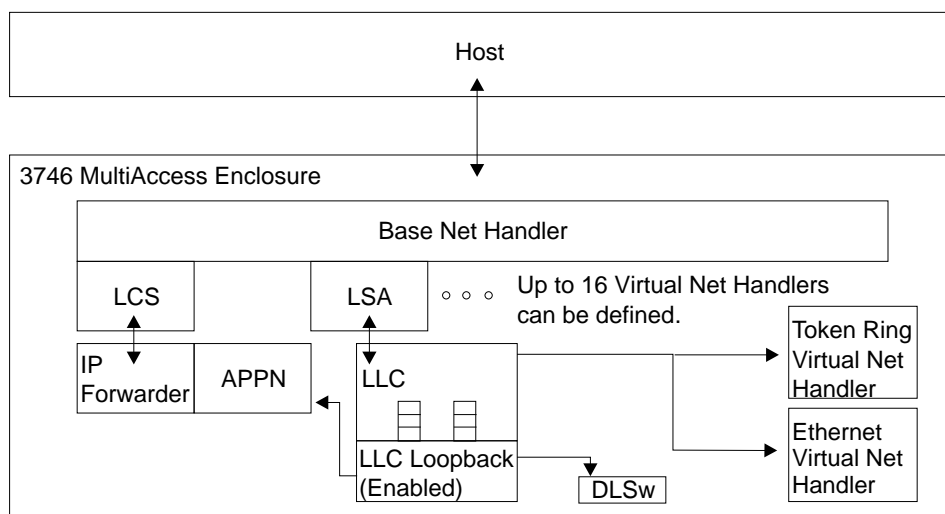
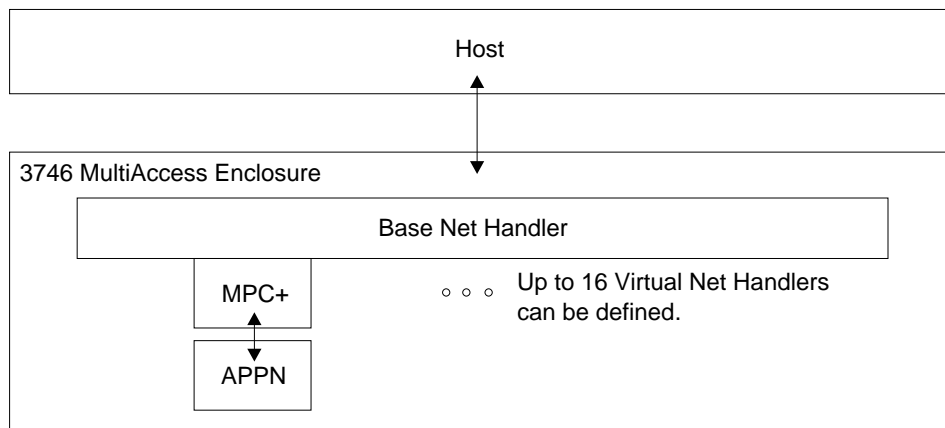

Figure 28-2. Multiaccess Enclosure ESCON Virtual Net Handlers for LCS and LSA - Logical View
Figure 28-3. Multiaccess Enclosure ESCON Virtual Net Handlers for MPC+ - Logical View.
- 4** The virtual net handlers provide connections for transmitting and receiving packets of information for host applications as, shown in Figure 28-2 on page 28-3 and Figure 28-3 on page 28-3.
Figure 28-2 shows the basic flow for an ESCON channel adapter with LCS and LSA configured.
Figure 28-3 shows the basic flow for an ESCON Channel Adapter for which MPC+ is configured.